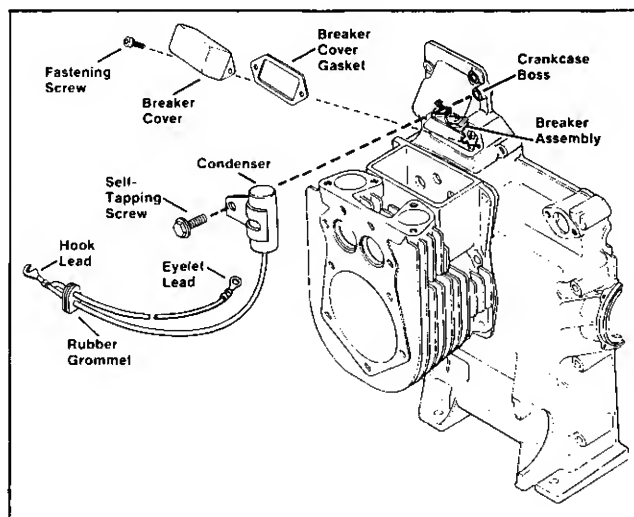

Figure 8-42. Condenser Assembly
4. On later models, place condenser (with condenser leads facing breaker) over crankcase boss, located above breaker (see Figure 8-42). Secure condenser to crankcase with 1/4-20 x 7/16" self-tapping screw.